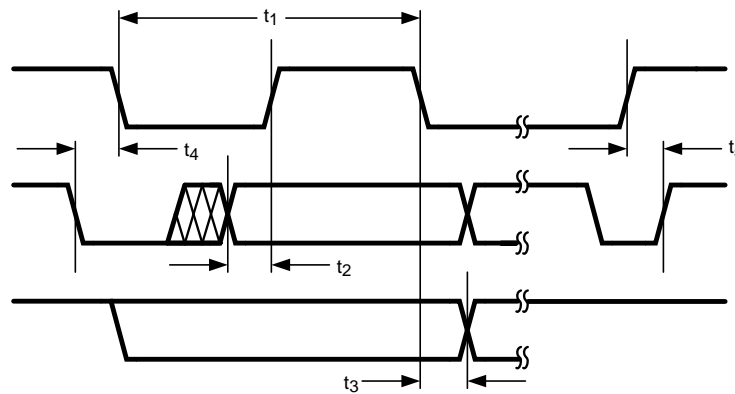

Figure 4. I2C Timing
I2C Compatible Timing Specifications (SCL, SDA, VIO, see Figure 4) (5)(4)